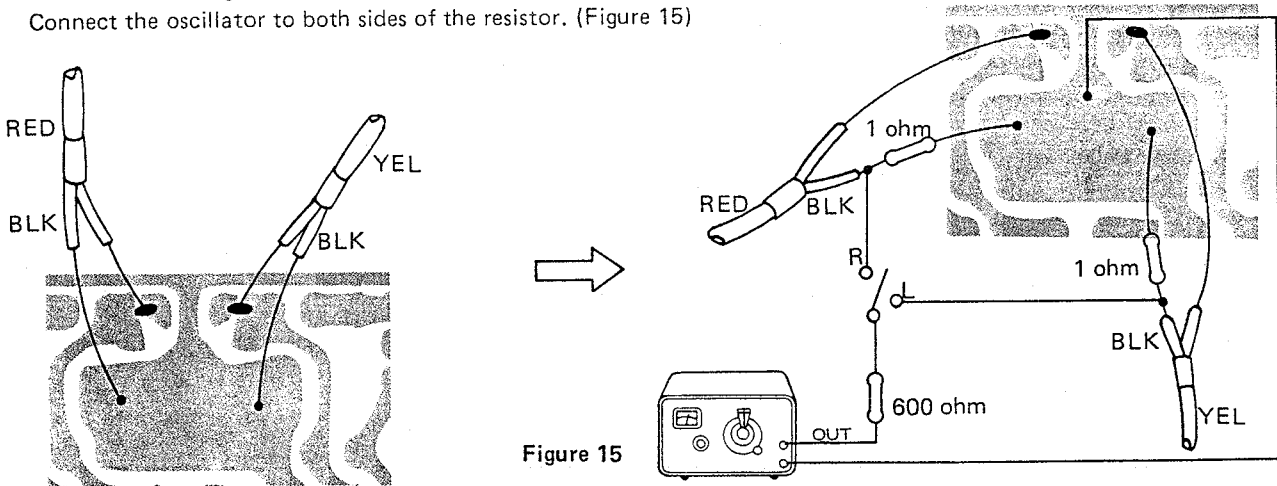
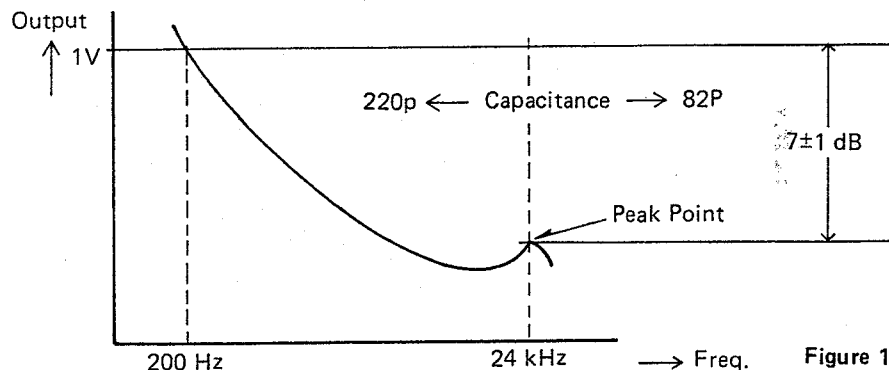

Figure 15
Figure 16
Connect the oscillator to both sides of the resistor. (Figure 15)
- (2) Set the OSC frequency to 200 Hz and adjust for 1V (0 dBV) at T.P.1 (1') by OSC output controller.
- (3) Increase the OSC frequency seeing the Volt meter and confirm the value of the volt meter as shown in Figure 16. Choose the capacitor (C401, 402) that the peak point become to 24 kHz as shown in Figure 15.